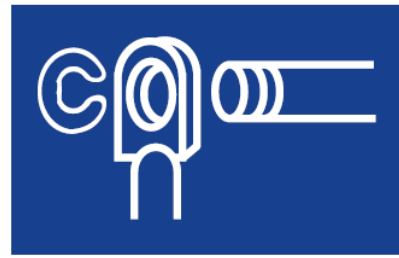

Fig. 6
3. Eyelet connector with retaining clip (Fig. 6).